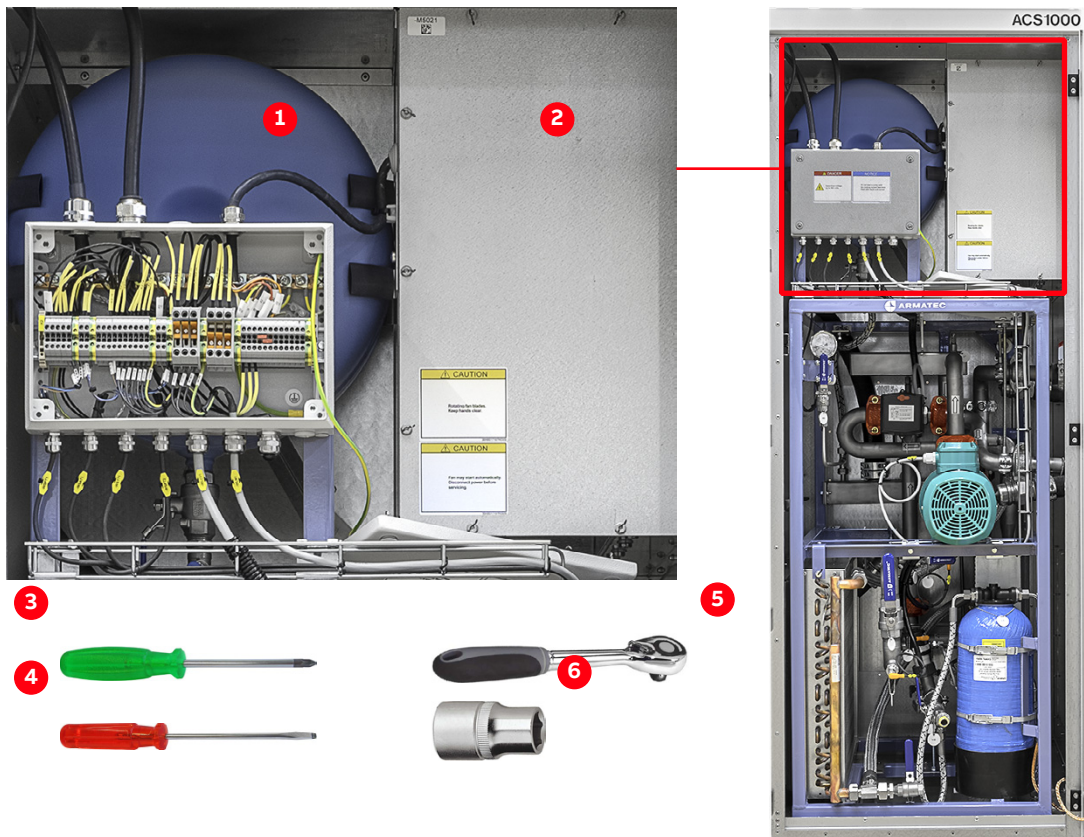
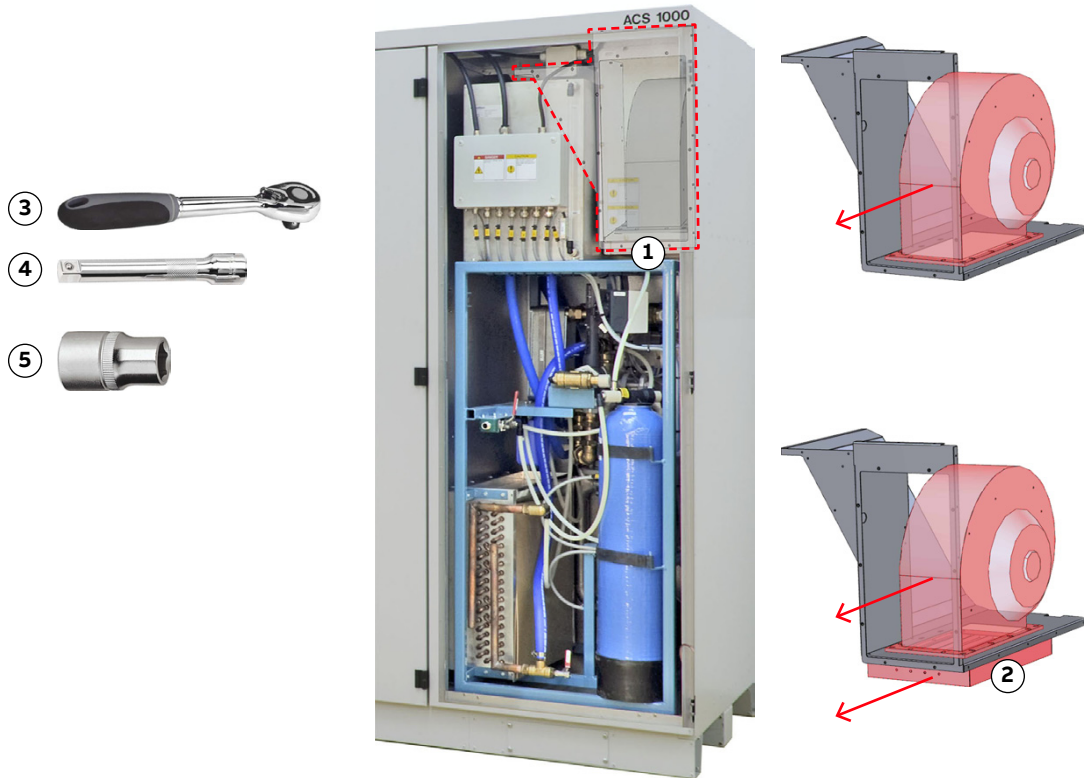

Figure 11-8: Water cooling unit – Replacing the internal fan
Figure 11-9: Water cooling unit – replacing the internal fan
2. Disconnect and remove the power supply cable from the terminal box (1 in Fig. 11-8) inside the water cooling cabinet.
3. Unscrew the cover of the fan housing (2 in Fig. 11-8). Unscrew the fixing bolts on the underside of the fan (1 in Fig. 11-9).
**Note:** If the fan is equipped with a baffle blade louver (2 in Fig. 11-9), secure the baffle blade louver against dropping before you remove the bolts. Install the new fan in reverse order of removal.